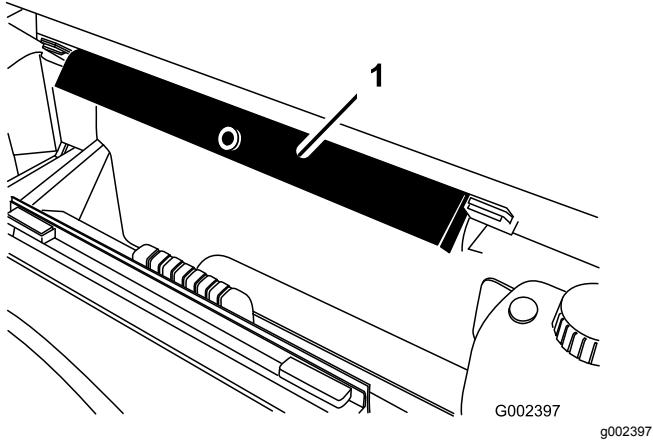

Figure 14
9. Remove the bed support from the storage brackets on back of the ROPS panel (Figure 14).